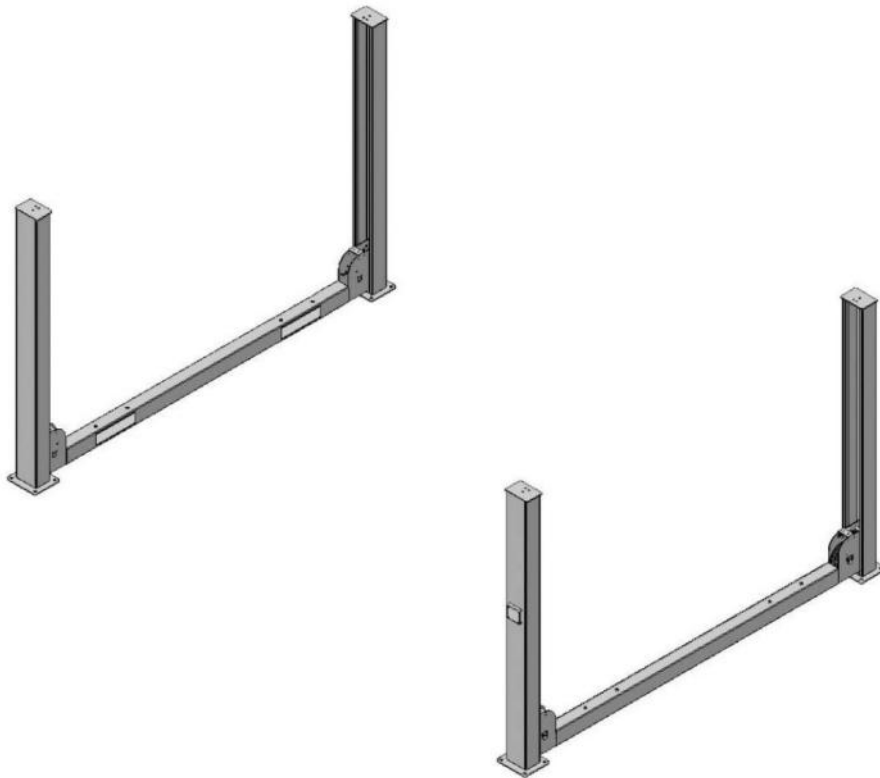

Fig.15
D. Install cross beams (See Fig.15 & 16).